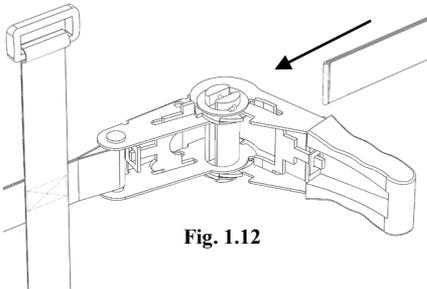

Fig. 1.12
- j. With the Ratchet open, feed the loose end of the strap through the center slot so that the strap is coming towards the top of the ratchet handle (Fig 1.12). Do this until all the excess strap is through the ratchet center. **Ensure that the strap has not twisted.**